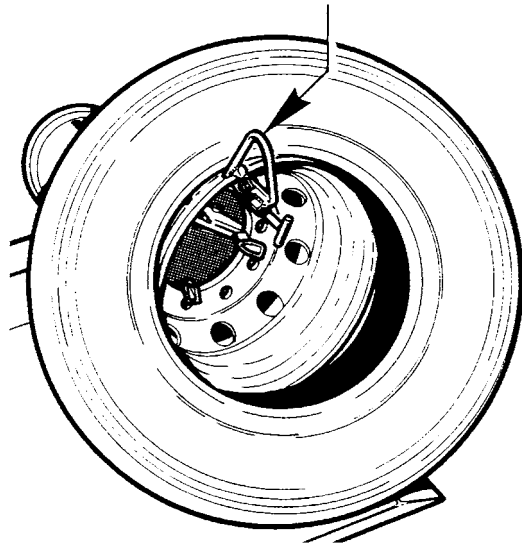

Fig.27
2. Move the chuck arm all the way down. Roll the tire on the foot board and hang it onto the mounting clamp (fig.27).